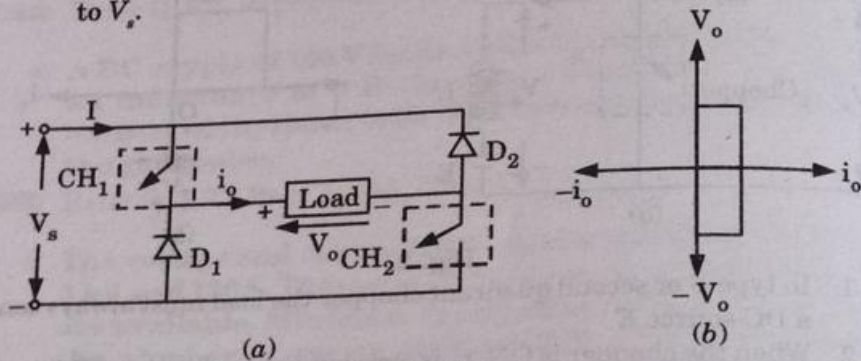

Fig. 4.
- The circuit diagram of the type D chopper is shown in Fig. 4(a). When the two choppers are ON the output voltage v_o will be equal to V_s .